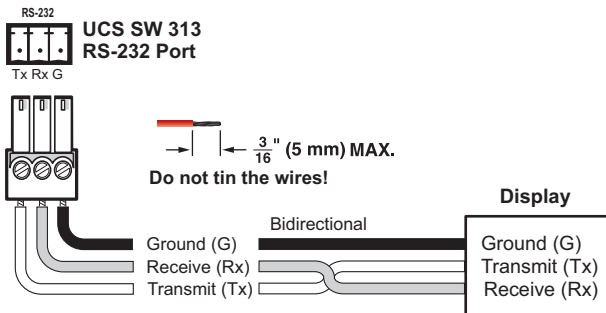

Figure 5. Wiring for RS-232 Display Control
- F RS-232 display control port** — Connect this port to the RS-232 connector of a display to control the display. The port can be configured using PCS (see the *UCS SW 313 and UCS 303 Help File*) to control the display in the following modes 0, 1, or 2 (see the table below). See figure 5 to wire this port.